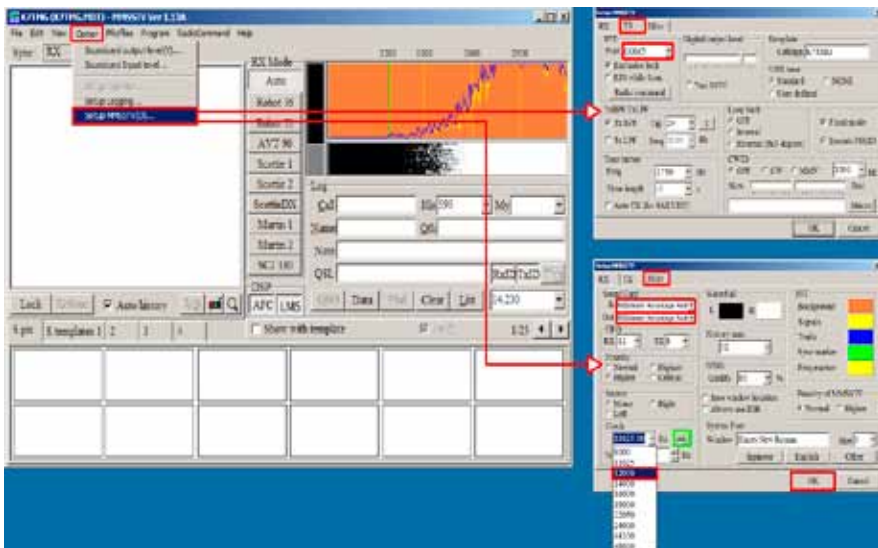

Fig 18 – Configuring MMSSTV to use the RIGblaster
Refer to Figures 18 and 19 for calibrating MMSSTV.
14. Press the “ADJ” button (highlighted in green in Fig.18).